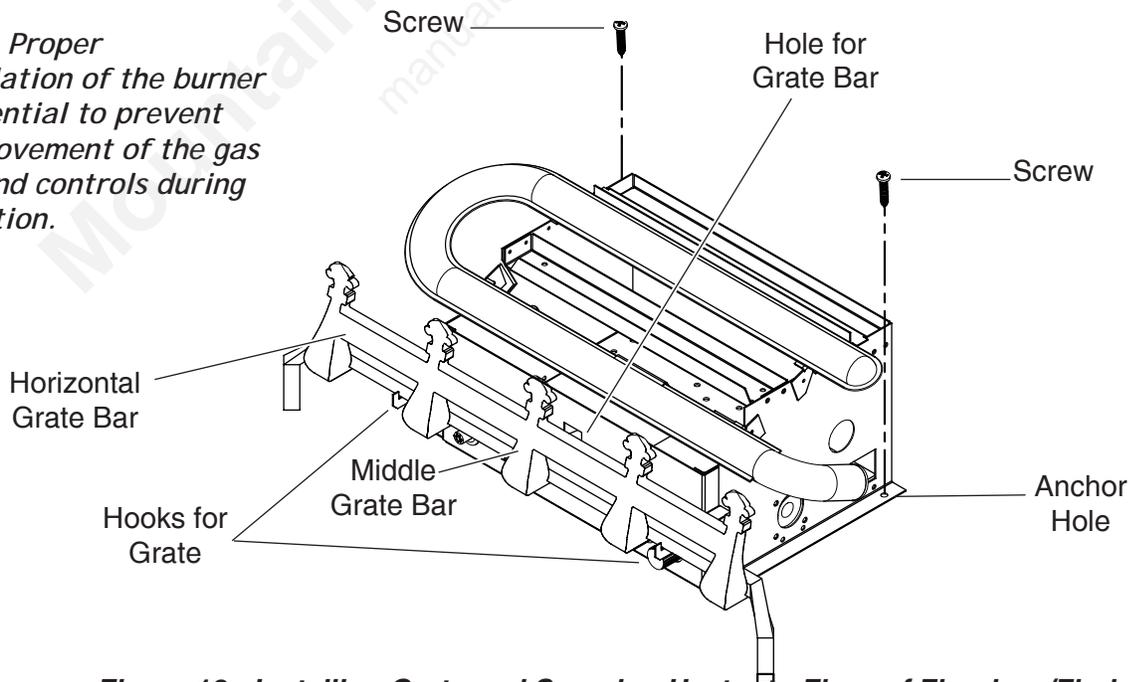

Figure 12 - Installing Grate and Securing Heater to Floor of Fireplace/Firebox
2. Installing Grate: Insert longest middle grate bar in one of the two square holes in control panel. See Figure 12. Be sure grate is centered. Sit horizontal bar inside two hooks on front of control panel. See Figure 12. Make certain front feet of grate are located inside front edge of fireplace or firebox.
3. Anchor holes are located on the flange of the unit. See Figure 12. After centering the burner correctly, mark the hole positions on the fireplace/firebox floor. Drill two (2) $\frac{5}{32}$ " diameter holes approximately $1\frac{1}{2}$ " deep.
4. Anchor the unit to the fireplace/firebox floor using the screws provided. See Figure 12.